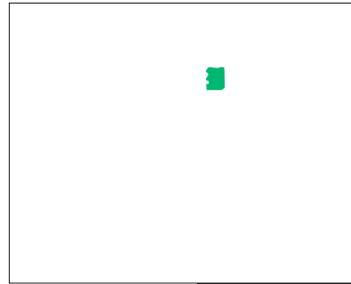

FIGURE 1
- 1** First, apply a coating of the included Crossbow String, Cable and Rail Conditioner to your string and cables covering the served and unserved sections. Ensure that the cables cross on the right side and that the wider end of the cable slide is facing towards the back of the crossbow, as pictured in Figure 1.